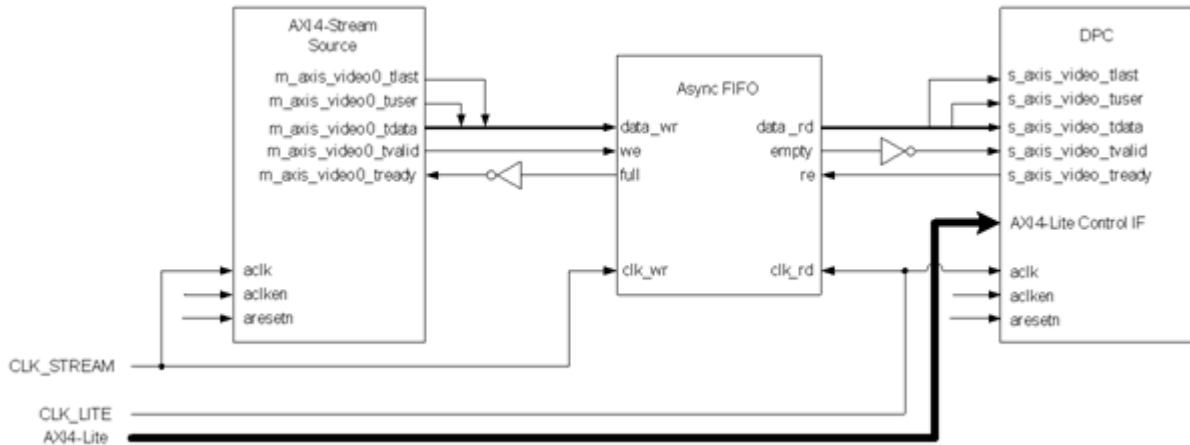

Figure 4-4: DPC CORE Top-Level Signaling Interface
- ( $F_{CLK\_STREAM} < F_{CLK\_LITE}$ ) then clock-domain crossing logic needs to be inserted before the AXI4-Stream interface, and the DPC core needs to be clocked at the AXI4-Lite clock via the `ACLK` pin, as shown in Figure 4-4. Alternatively, if  $F_{CLK\_LITE}$  greater than of the  $F_{MAX}$  of the DPC core, clock domain crossing logic can be inserted in front of the AXI4-Lite Control interface.
In either case, Xilinx System Integrator tools, such as EDK, can automatically infer clock-domain crossing logic using the AXI interconnect core, when the tool detects that the master / slave side of AXI4 interfaces operate on different CLK rates. For manual instantiation of clock-domain crossing logic, HDL users can take advantage of the FIFO Generator IP core, as shown in Figure 4-4.